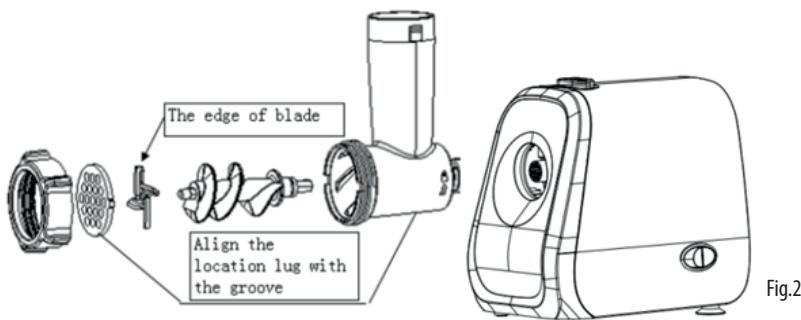

Fig.2
1. Assemble the ream meat rod, blade, blade disk and lock nut as illustrated as figure (see fig.2) before ream meat tube, and the appliance can be used now.